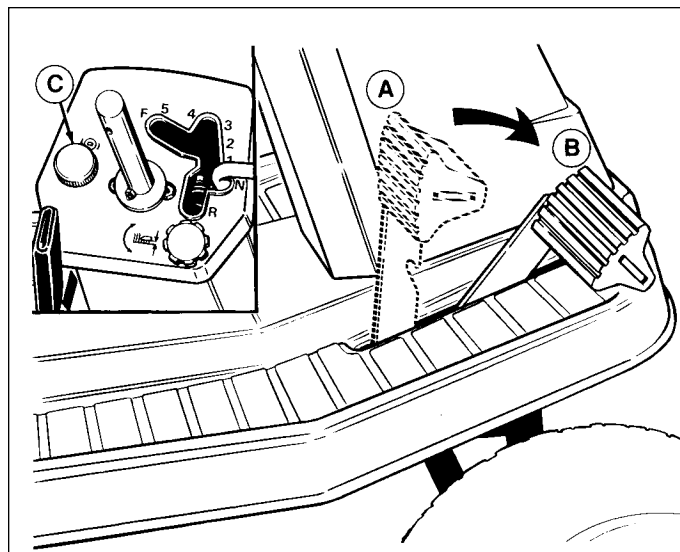
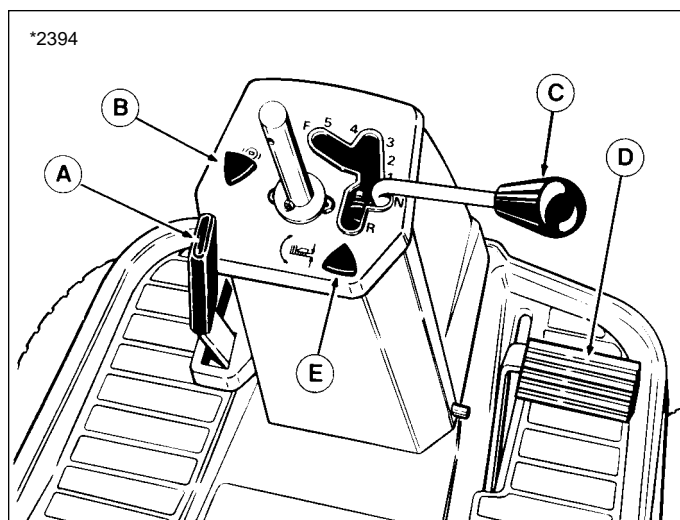

Figure 10. Clutch/Brake Pedal
Figure 11. Controls
1. When traveling to or from the work site, fully raise the mower using the mower lift lever (A, figure 11). At the work site, lower mower using the lift lever.
2. Use the Dial-A-Cut™ control (E, figure 11) to adjust the height of the mower. Pull back slightly on mower lift lever (A, figure 10) to relieve pressure and turn clockwise to raise mower cutting height, or counter-clockwise to lower cutting height.
1. See figure 10. Depressing the pedal from position A to B disengages the transmission drive and also returns the transmission control lever to neutral (from forward speeds). Fully depressing the pedal to position B applies the rider brake.
2. Parking brake is applied at pedal position B when parking brake control knob (C, figure 10) is pulled up with pedal fully depressed.
1. See figure 10. Depressing the clutch pedal from position A to B activates neutral start circuit, disengages the transmission drive belt and allows the gear lever to be shifted.
2. Fully depressing the clutch/brake pedal from position A to B applies the rider brake. Parking brake is applied at position B when parking brake control knob (C, figure 10) is pulled up with pedal depressed.
1. Seat yourself on the rider seat in the operating position. Set the parking brake using the clutch/brake pedal (D, figure 11) and parking brake knob (B).
2. Push down on the switch (G, figure 2) to disengage the PTO and place the ground speed control lever (C, figure 11) in neutral.
according to how far the control lever (C, figure 11) is moved in the forward or reverse position.
On gear models, ground speed is selected by depressing the clutch/brake pedal (D, figure 11) and moving the control lever (C, figure 11) to the appropriate gear selection. Most mowing is done in 3rd or 4th gear with engine set at full speed. If the terrain is rough, hilly or sloping, use first or second gear. If the grass is wet or over 3" (76mm) high, use full engine speed (with low gear) so the mower will have enough power to cut the grass.
1. If you are ready to mow, lower the mower from the transport position using lever (A, figure 11) and set the mowing height using the Dial-A-Cut™ Control (E, figure 11).
4. Release the parking brake by depressing the clutch/brake pedal (D, figure 11) and pushing knob (B) down.
5. **On hydro models**, move the ground speed control lever (C, figure 11) to the desired direction and speed of travel to set the rider in motion.
1. **On hydro models**, move the ground speed control lever (C, figure 11) into the NEUTRAL position to make a gradual stop. To make a more rapid stop, depress the clutch/brake pedal (D, figure 11).
On gear models, press the clutch/brake pedal (D, figure 11) down only far enough to disengage the clutch to make a gradual stop. For a more rapid stop, press pedal down farther to apply the brake. Move the ground speed control lever to NEUTRAL before releasing the pedal.
2. Engage the parking brake by fully depressing clutch/brake pedal and pulling up on parking brake knob (B, figure 11).
2. Place the mower in the transport position (up) using the mower lift lever (A, figure 11).
3. Depress the clutch/brake pedal and place the ground speed control lever (C, figure 11) in the neutral gate.